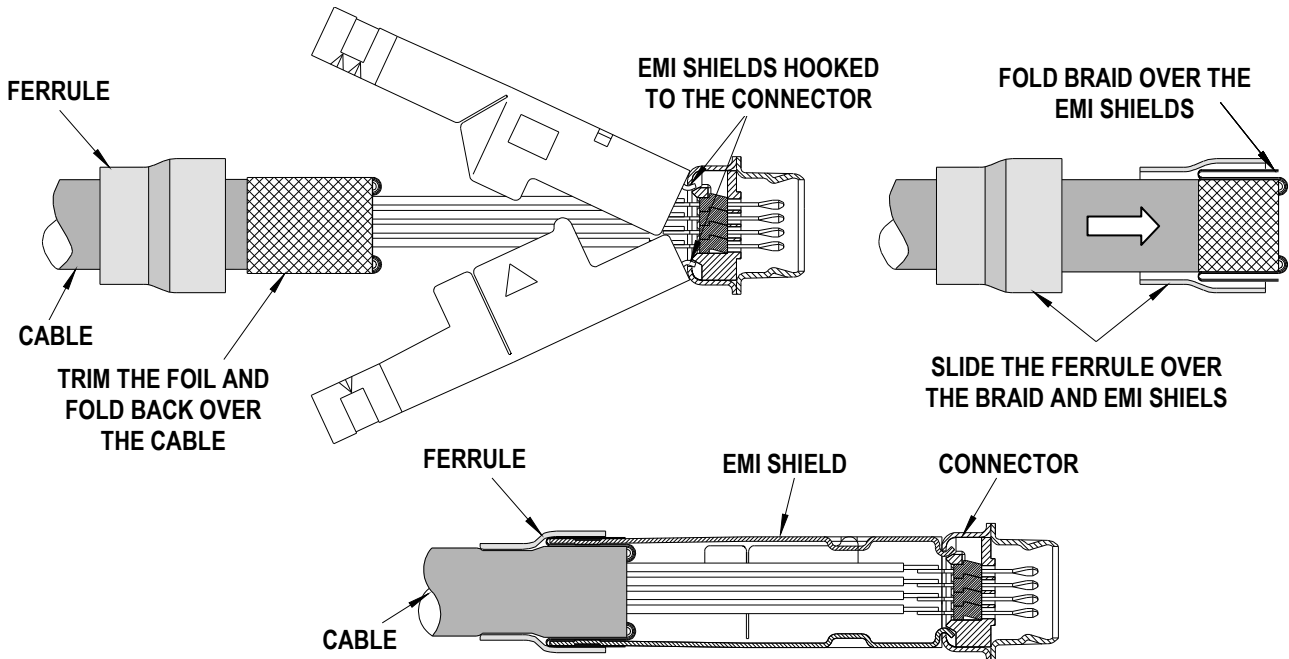

Figure 3
3. Install a ferrule over the cable braid and EMI shield as shown in Figure 3.